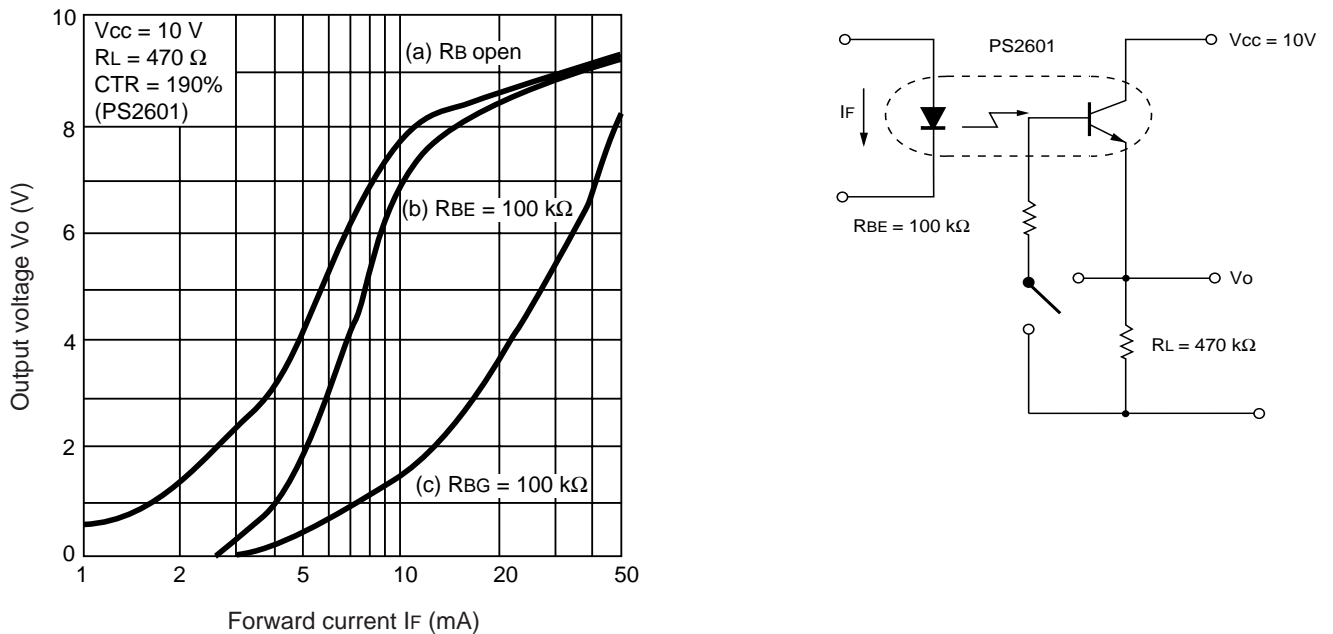

Figure 3-5. V_o vs. I_F Characteristics
When resistor R_{BE} is serially connected to resistor R_L (see Fig. 3-4 (c)), the reduction of a CTR becomes greater even if hFE_2 is approximately equal to hFE_0 in expression (8) as the expression includes R_L as a parameter. Fig. 3-5 shows typical V_o vs. I_F characteristics of the above circuits (a), (b), and (c).